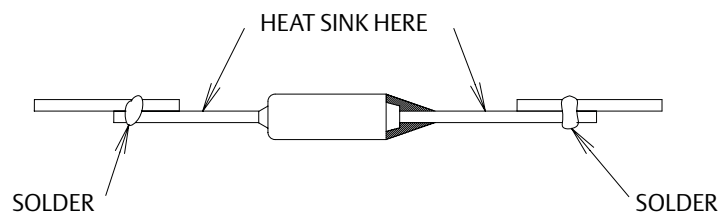

Figure 7
- P ZZZZZ (P) Manufacturing plant; (ZZZZZ) Date code
- G Z X XX Part number (see figure 7)
- G Z X XX RR Part number (see figure 7)
- T_F TTTC P ZZ (T_F TTTC) Maximum open temperature °C; (P) Manufacturing plant location; (ZZ) Manufacture date code; () Underwriters Labs logo
Thermal cutoff leads should be heat sunk during the soldering operation (*see figure 7*). If excessive heat is conducted by the leads into the thermal cutoff, it can shorten the life of the TCO. In addition, excessive lead temperatures can damage the epoxy and possibly result in the TCO failing to open. More heat sinking is necessary for thermal cutoffs with low temperature ratings.